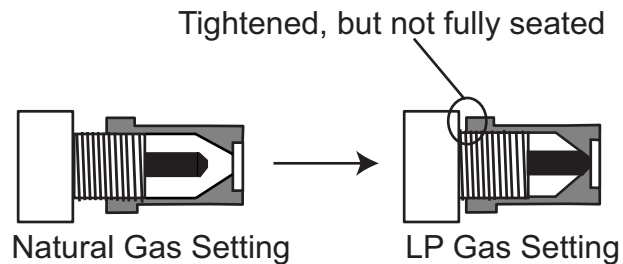

Figure 5: Broil Orifice Conversion
3. Adjust Broil Orifice. The orifice is located behind the broil burner in the back oven wall (See Figure 5). Use a 1/2" deep socket driver with 3" minimum